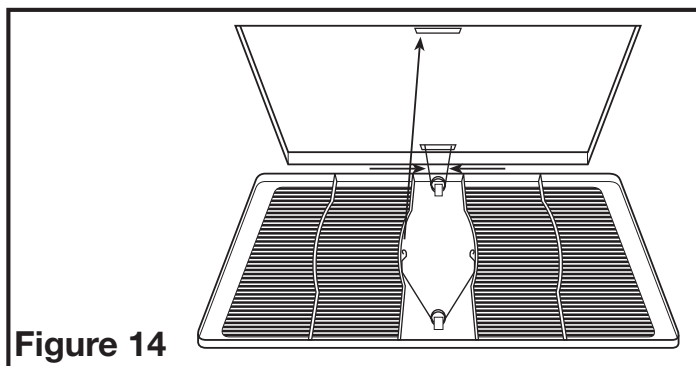

Figure 14
- 4a. **STANDARD AND HUMIDITY SENSING MODELS:** Install the grill by squeezing the two ends of the springs together and installing them up into the slots on the fan's housing. Push the grill up into position (**Figure 14**).